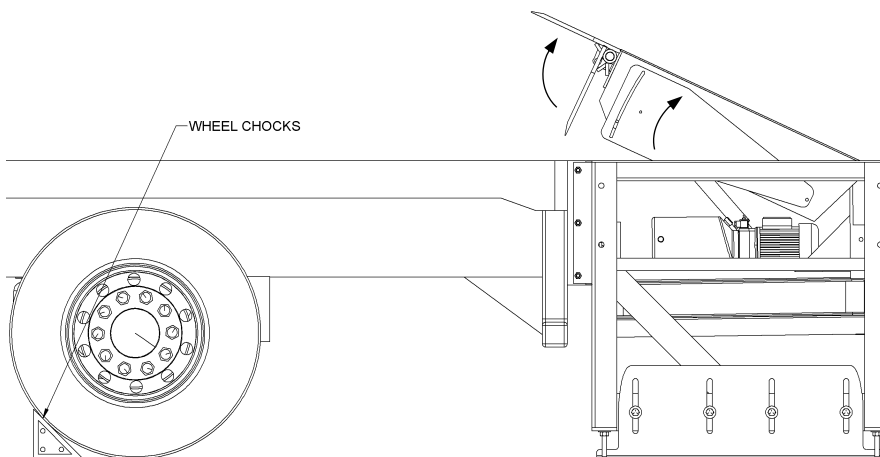

Figure 9: Activating Leveler
1. Restrain the vehicle per OSHA standards with wheel chocks or a mechanical restraint before loading or unloading the vehicle (Figure 9).